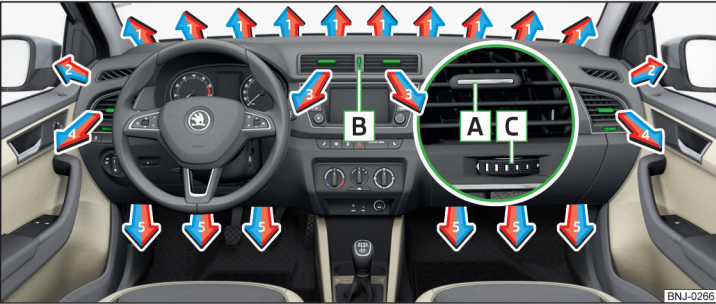

Fig. 126 Air outlet vents
The direction of airflow can be adjusted using the air outlet vents **3, 4** » Fig. 126, the outlets can be opened and closed individually.
The airflow direction is set by moving the adjustment element **A** » Fig. 126 in the desired direction.
- » Turn the regulator **B** upwards » Fig. 126.
- » Turn the regulator **B** downwards » Fig. 126.
Set the direction of the air outlet	Air outlet vents » Fig. 126